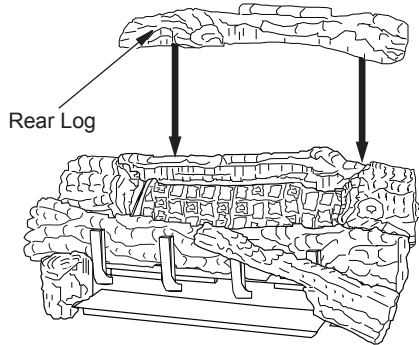

Figure 55 - Installing Rear Log
9. Rest rear log in back corner sections of chassis assembly as shown in Figure 55.